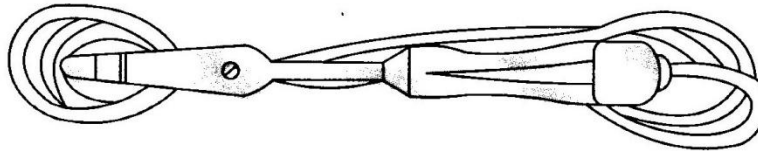

Fig. P-1.12. A sketch for electric soldering iron.
12. **Soldering iron** : It is used for soldering joints with soldering wire. Rosin or hydrochloric acid is used as flux during soldering. There are two types of soldering iron ; country made or common and electric soldering iron. The first one is heated by a blow lamp or in a furnace and its size depends upon its weight. But in the second, a heating element is provided which heats it up. Its size depends upon the wattage of the heating element. It can be 35 watts or 65 watts. A 65 watts soldering iron is very common for soldering purpose. Fig. P-1.12 shows a sketch for electric soldering iron.